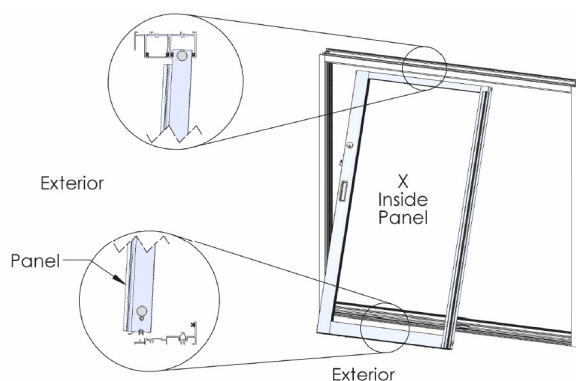

Figure 13:
1. From the outside, with the weather-strip facing outside, insert the “X” panel into the inside channel of the head. Push up and swing the bottom of the panel in and down onto the sill. Ensure the rollers are correctly seated on the stainless-steel track (Figure 13).